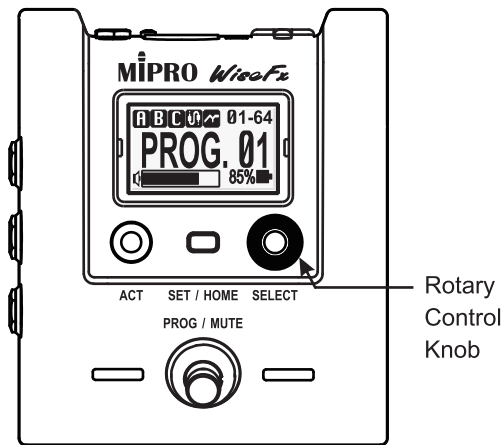

Fig. 10
(A) A navigation control for programming selection, Fig. 10: